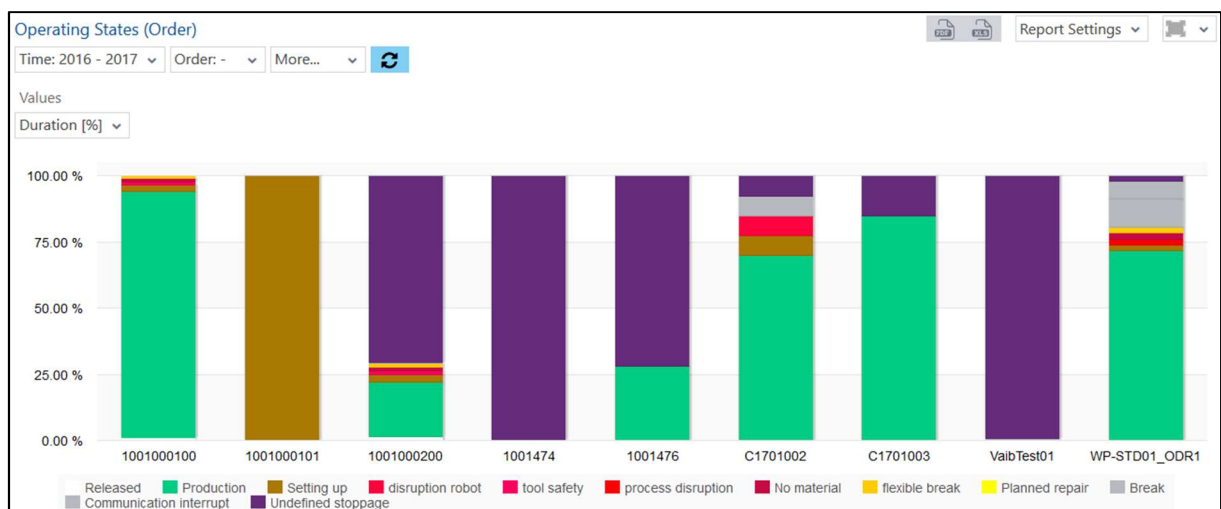

Fig. 77: Operating State Report (Order) as a column chart
- Operating State Report (Order) as a column chart (Fig. 77):